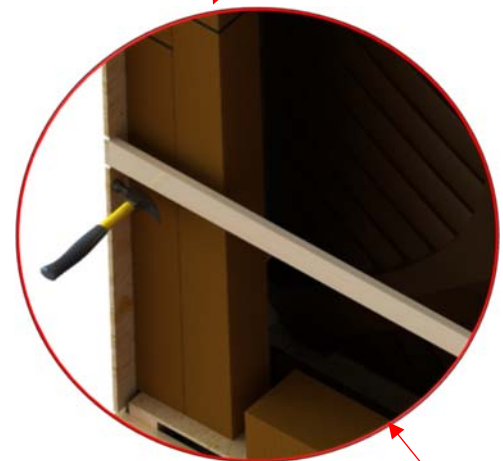

Figure 25
- 3) Hammer off the wood furring strip by hitting on the inside of the side panels. (Figure 25)
- ♦ Be careful not to damage the cover components and other parts in the crate. (Figure 25)